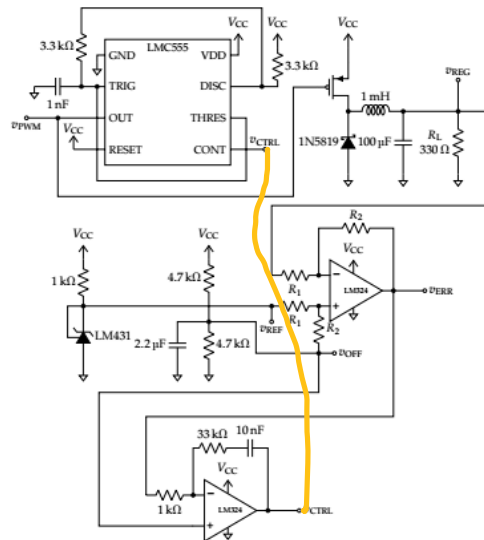

Figure 11.9: Buck Regulator Controller
1. Construct the circuit in figure 11.9. Make sure to close the feedback loop by connecting both  $v_{CTRL}$  points together.